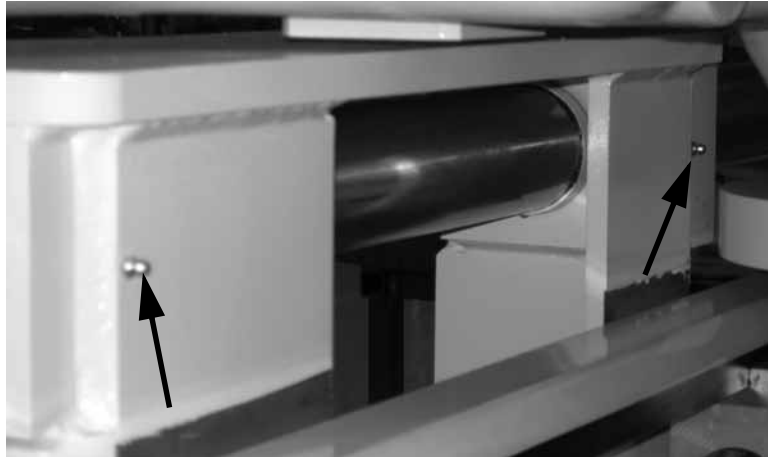

Figure 6-2. Fittings on the feed drive side of the frame. (The saw bow is fed all the way forward.)
- Two on the feed drive side of the frame for the frame guide shaft—Figure 6-2.